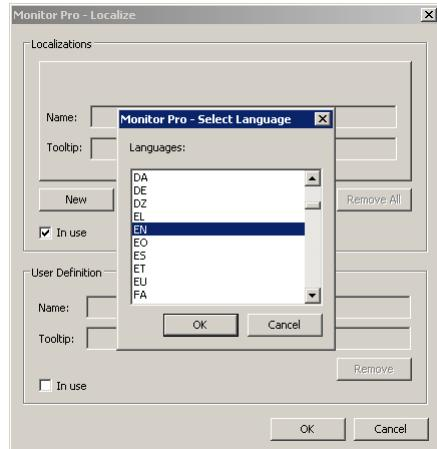

Figure 239: Selecting a used language
3. Select the target language, see Figure 239.